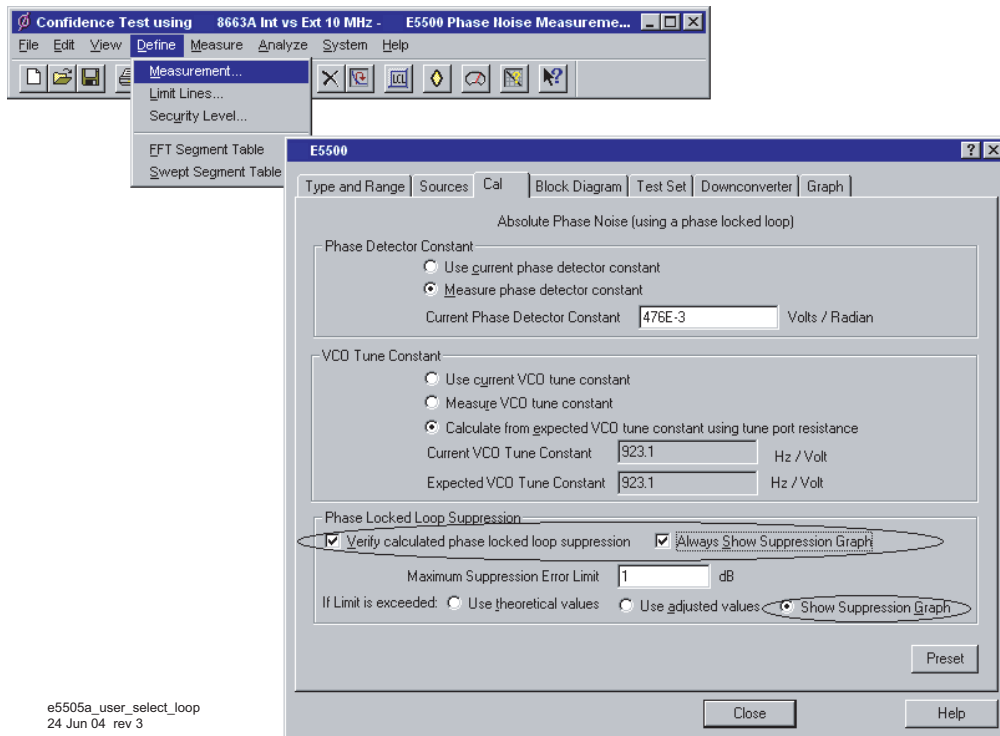

Figure 39 Selecting loop suppression verification
- 1 Using Figure 39 as a guide, navigate to the **Cal** tab.